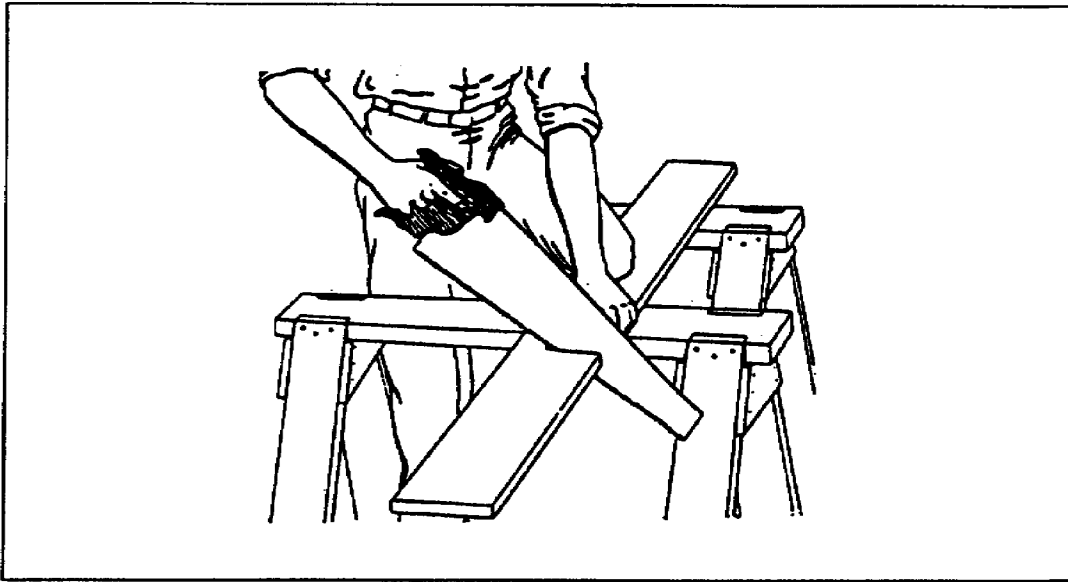

Figure 2-37. Sawhorses
a. Supporting Tools. Supporting tools consist of sawhorses or trestles used to support workers and materials. Figure 2-37 shows a pair of sawhorses, which you might use to support a piece of lumber that you are cutting.